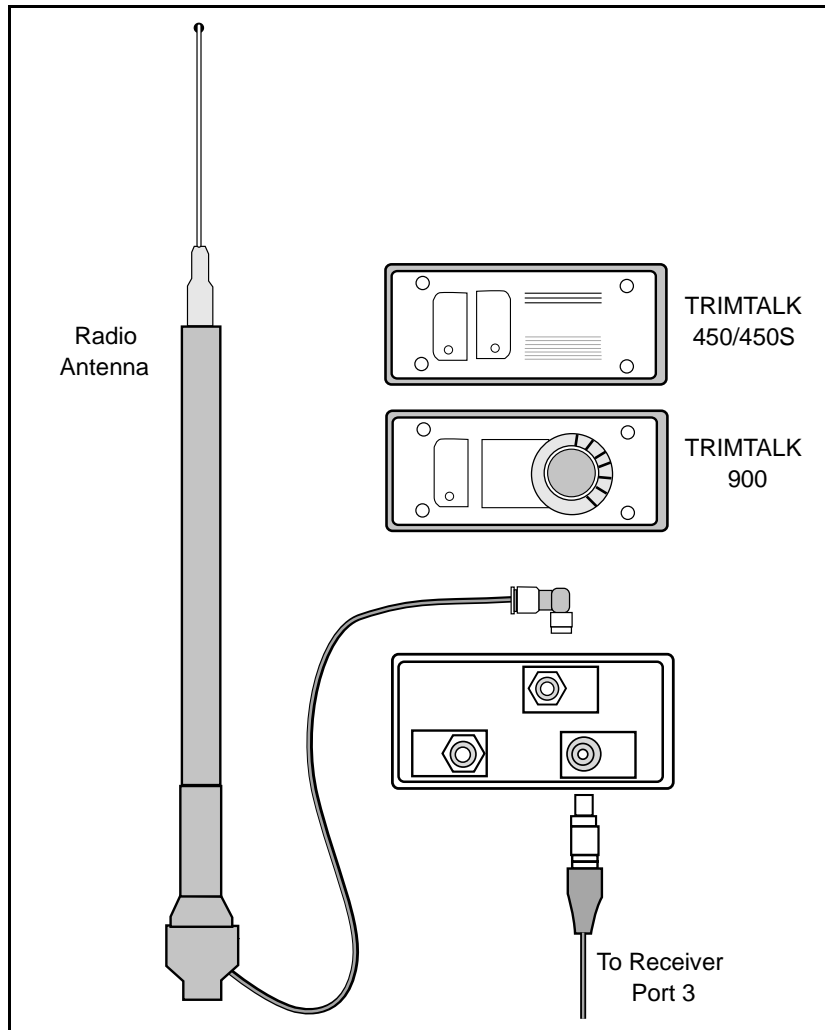

Figure 8.9 Radio and antenna setup
2. Assemble and erect the radio antenna, then connect the radio antenna to the radio using the cable attached to the antenna, as shown in Figure 8.9.